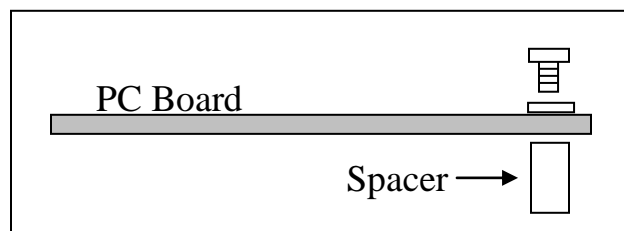

Figure 11. Spacers mounted to the bottom of the PC board
4. ☐ Install two spacers (Figure 11) below the rear corners of the PC board using 1/4 inch long, 4-40 screws and lock washers.